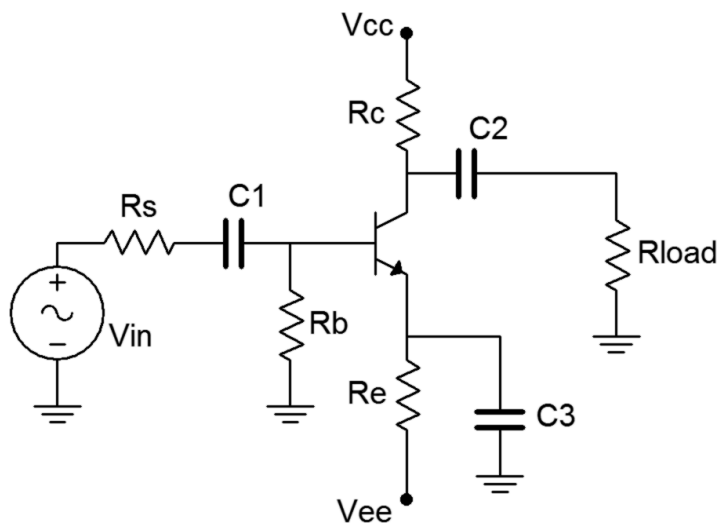

Figure 1
1. Consider the circuit of Figure 1 using  $V_{cc} = 15$  volts,  $V_{ee} = -12$  volts,  $R_s = 10\text{ k}\Omega$ ,  $R_b = 33\text{ k}\Omega$ ,  $R_e = 22\text{ k}\Omega$ ,  $R_c = 15\text{ k}\Omega$ ,  $R_{load} = 20\text{ k}\Omega$ ,  $C_1 = C_2 = 10\text{ }\mu\text{F}$  and  $C_3 = 470\text{ }\mu\text{F}$ . Using the approximation of a negligible base voltage, determine the DC voltages at the base, emitter, and collector along with the collector current, and record these in Table 1.
2. Build the circuit of Figure 1 using  $V_{cc} = 15$  volts,  $V_{ee} = -12$  volts,  $R_s = 10\text{ k}\Omega$ ,  $R_b = 33\text{ k}\Omega$ ,  $R_e = 22\text{ k}\Omega$ ,  $R_c = 15\text{ k}\Omega$ ,  $R_{load} = 20\text{ k}\Omega$ ,  $C_1 = C_2 = 10\text{ }\mu\text{F}$  and  $C_3 = 470\text{ }\mu\text{F}$ . Make sure that the AC source is turned off or disconnected. Measure the DC voltages at the base, emitter, and collector along with the collector current, and record these in Table 1. Note, you may wish to use a transistor curve tracer or beta checker to get approximate values of beta for each of the three transistors to be used.